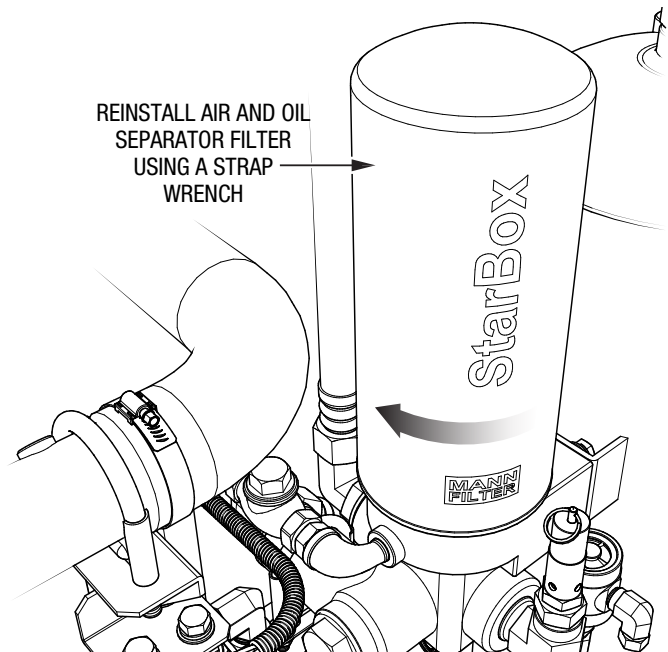

Figure 29. Air and Oil Separator Filter Reinstallation
5. Reinstall the air and oil separator filter with a strap wrench (Figure 29).